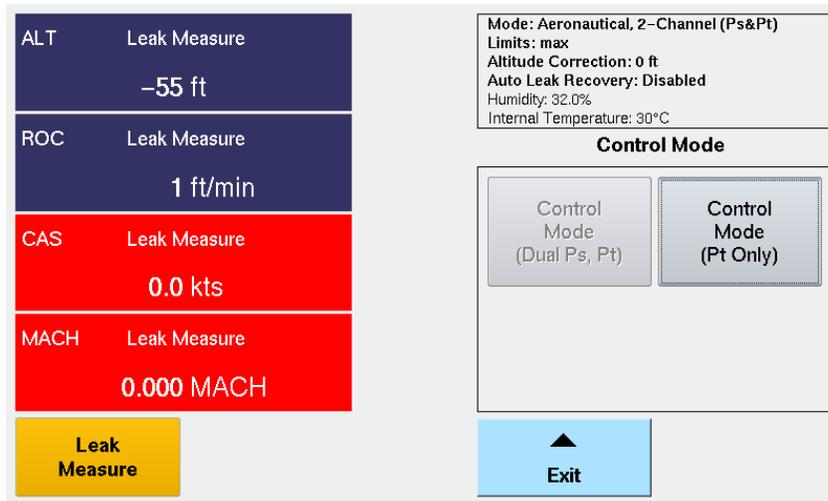

Figure 19 Default 2-Channel (Dual Ps, Pt) mode
1. Default: Aeronautical 2-Channel (Ps&Pt) (Figure 19)